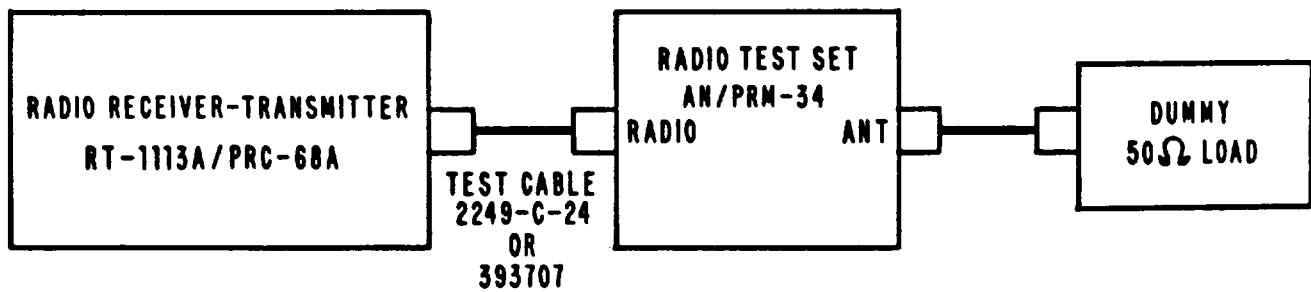

Figure 2-3. Radio Set and Test Set Interconnection Diagram.
<p>(7) Set radio set controls for high-frequency operation.</p> <p>(8) Repeat steps (5) and (6). Value obtained should be 0.55 <math>\pm</math>0.05.</p> <p>c. Perform frequency test, using PRM-34 test set (fig. 2-3). Observe CAUTION for step (5) above.</p> <p style="text-align: center;">NOTE</p> <p>Forward power test should be completed before performing frequency test. Low forward power of radio set can result in inaccurate frequency display.</p> <p>(1) Connect handset to radio set.</p> <p>(2) Set test set MODE switch to FREQ.</p> <p>(3) Set radio set controls for low-frequency operation.</p> <p>(4) Key transmitter by operating handset PIT switch. Press test set PUSH TO TEST switch. Compare test set display of output frequency with radio set frequency data.</p> <p>(5) Release handset PIT and test set PUSH TO TEST switches.</p> <p>(6) Set radio set controls for high-frequency operation.</p>	<p>c. If frequency reading in step (4) does not conform to specifications, higher level maintenance required.</p>